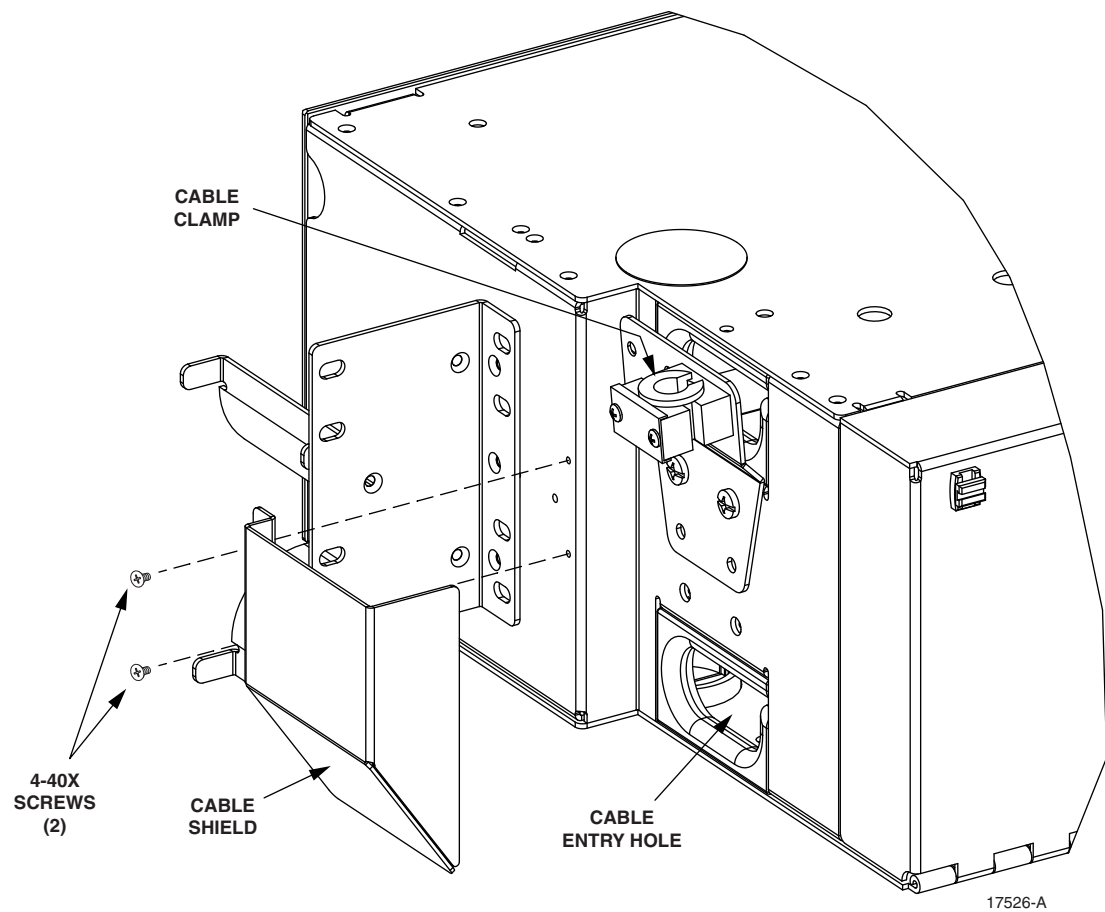

Figure 13. Cable Shield Components
7. If desired, install a cable shield using any of the three shields shipped with the panel. The purpose of the shield is to protect the cable where it enters the panel. Figure 13 shows the